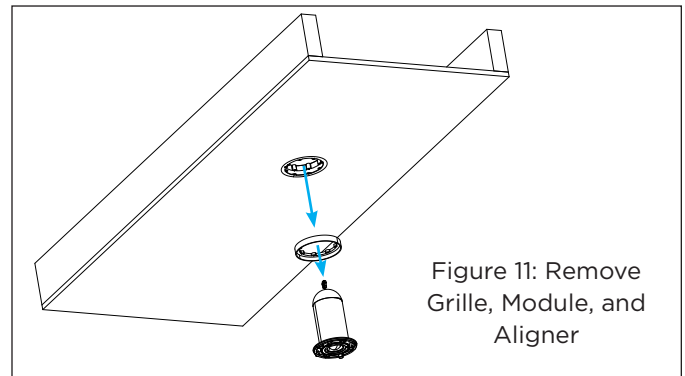

Figure 11: Remove Grille, Module, and Aligner
- After the spacers have been adjusted as needed, remove the module and grille aligner from the enclosure. Keep the grille aligner and spacer stack around the speaker module (see Figure 11).